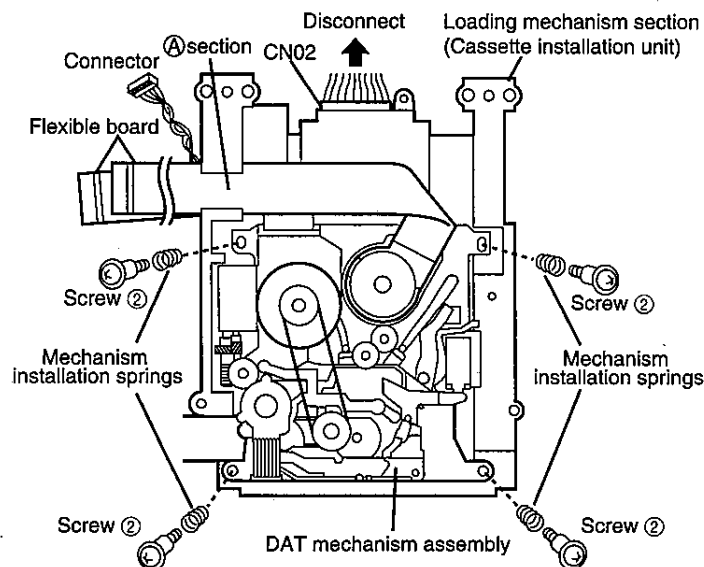

Figure 2
4. Remove the two flexible boards and the connector wire from the A section groove. (See Figure 2.)
5. Remove the four ② screws and the four mechanism installation springs and remove the DAT mechanism assembly from the cassette installation unit. (See Figure 2.)